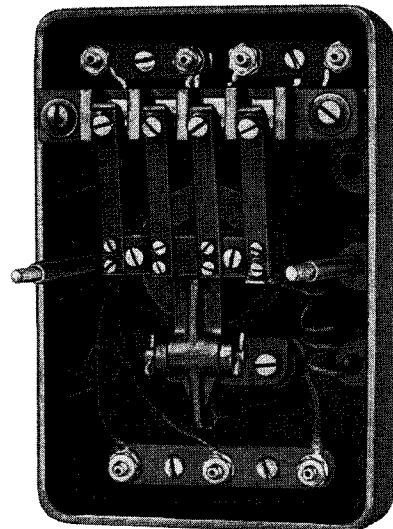

Fig. 20—Westinghouse Type M Multi-Contact Relay with Cover Removed
The coil is mounted on a solid core which is a screw threaded into the cast iron base. The armature is mounted below and in front of the coil by means of a pivot rod supported by a suitable bracket mounted on the base. At the end of the armature just below the mounting bracket the spring adjusting stud and the back stop screw are located. On the upper end of the armature the contact assembly is mounted on a bar extending horizontally. As shown in Figures 20 and 21 the contacts are mounted on a common bar for the four and six contact relays. This bar is insulated from the armature by a micarta strip. The moving contacts are mounted on the upper end of the contact springs and correspond with the stationary contacts mounted in the stationary contact block. This type of relay is not made with back contacts.
- M-4—Four parallel make contacts (Figures 20 and 23)